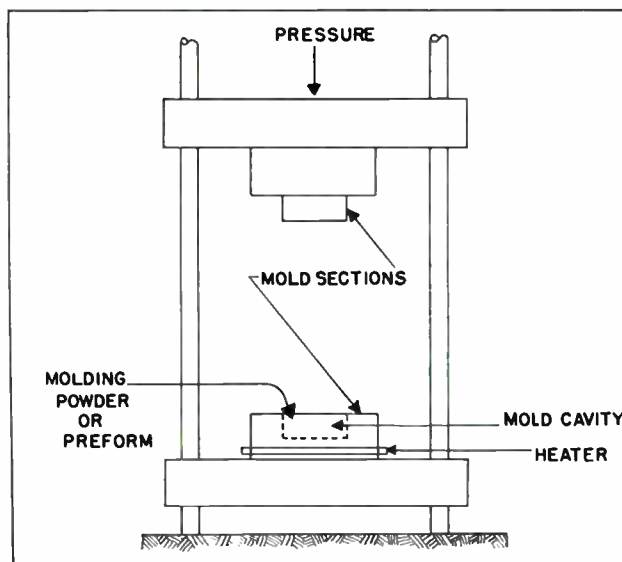

FIGURE 4
**Compression molding**, (Figure 4) is performed by inserting a weighed charge of molding material (or a preformed brick, cake, pellet, etc. of the necessary weight) into a heated mold (between 280 and 350° F.) and then closing the mold under this heat and a pressure that may be from 2 to 4 tons. The part is then allowed to become rigid by heat polymerization when using thermosetting compounds or by cooling when using thermoplastic compounds. This method is most used for the thermosetting plastics. An average production cycle is about five minutes.